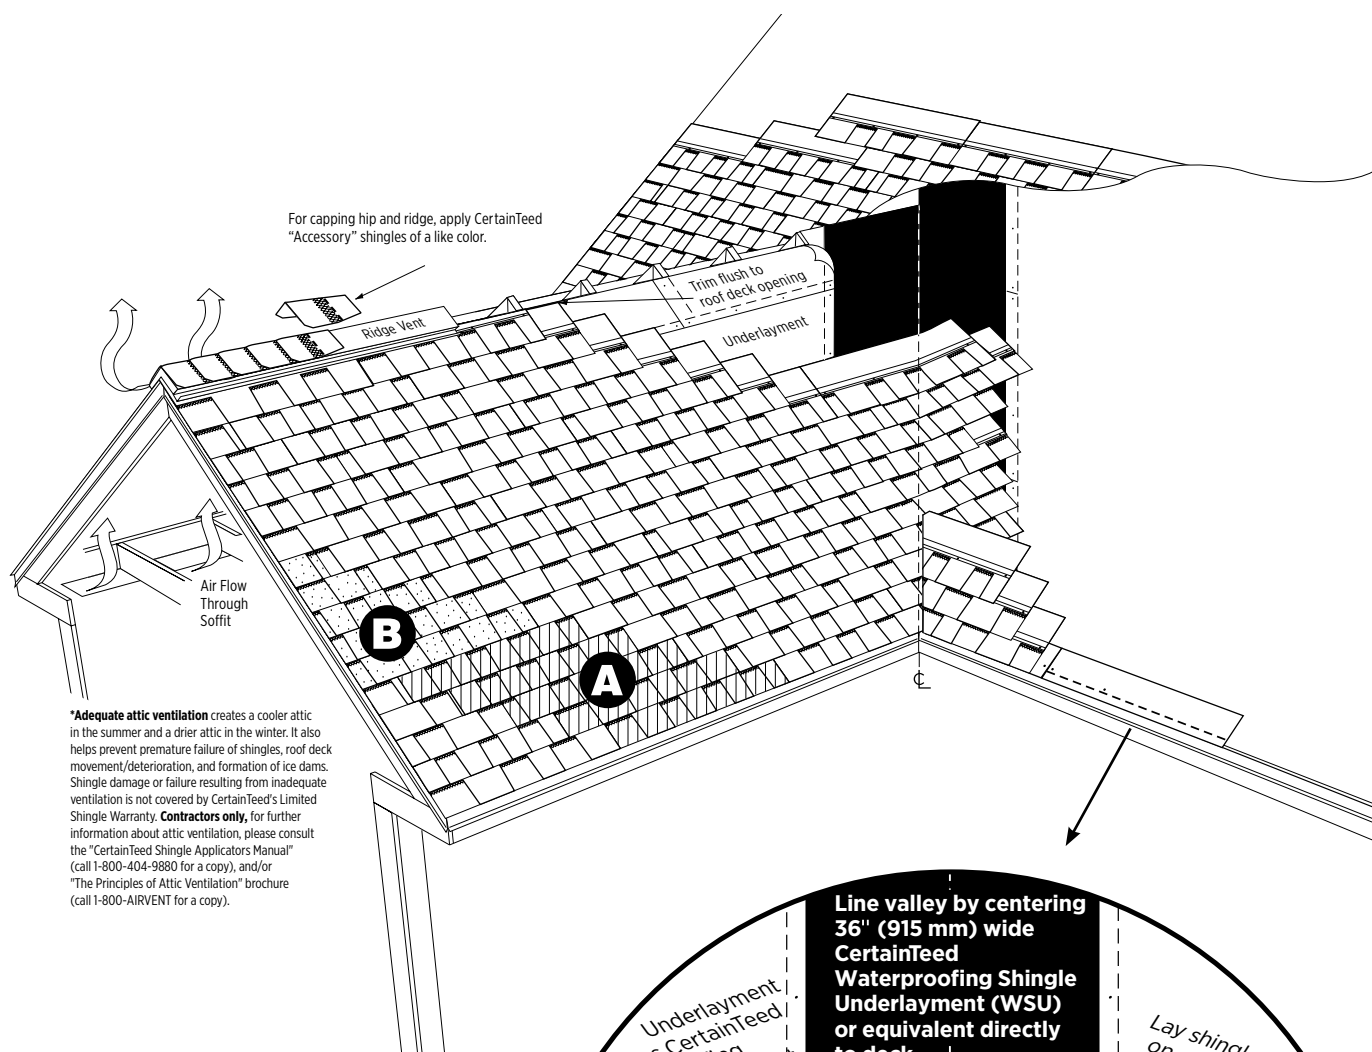

Figure 15-8 "Five-Course Diagonal Method" installation schematic.
1. Beginning again with a full shingle, repeat the five-course pattern up the left rake.(Figure 15-8, B).
2. Fill-in courses across the roof in a stepped diagonal fashion using full shingles. (Figure 15-8, A). Do not run courses straight across.